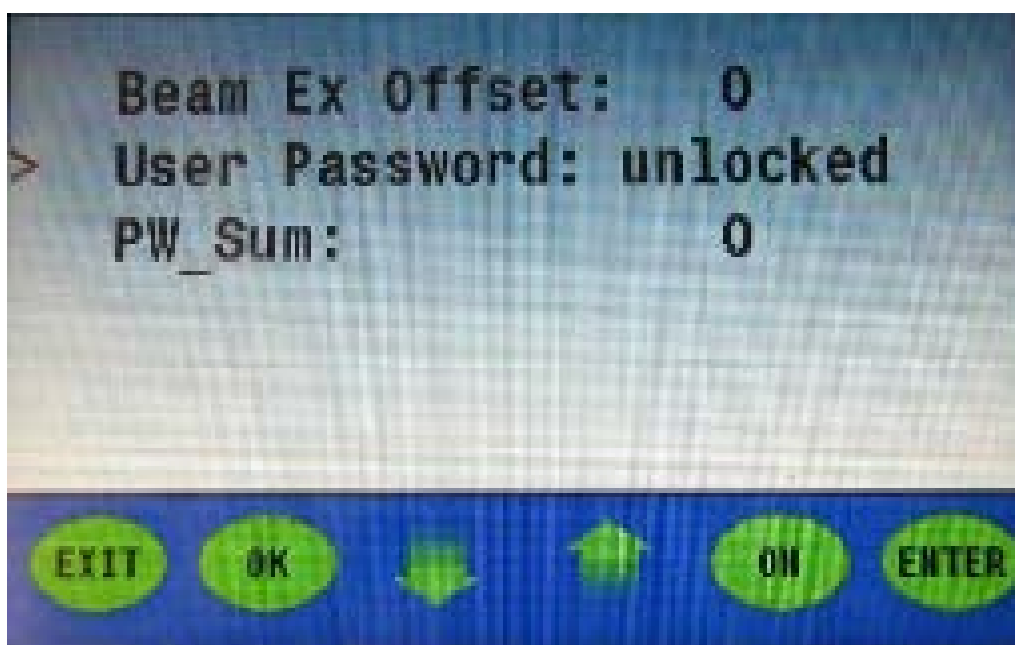

Figure 18
11. Press the **enter button** to input the new password and return to **“User Password: Unlocked”** on the menu list (**figure 18**).